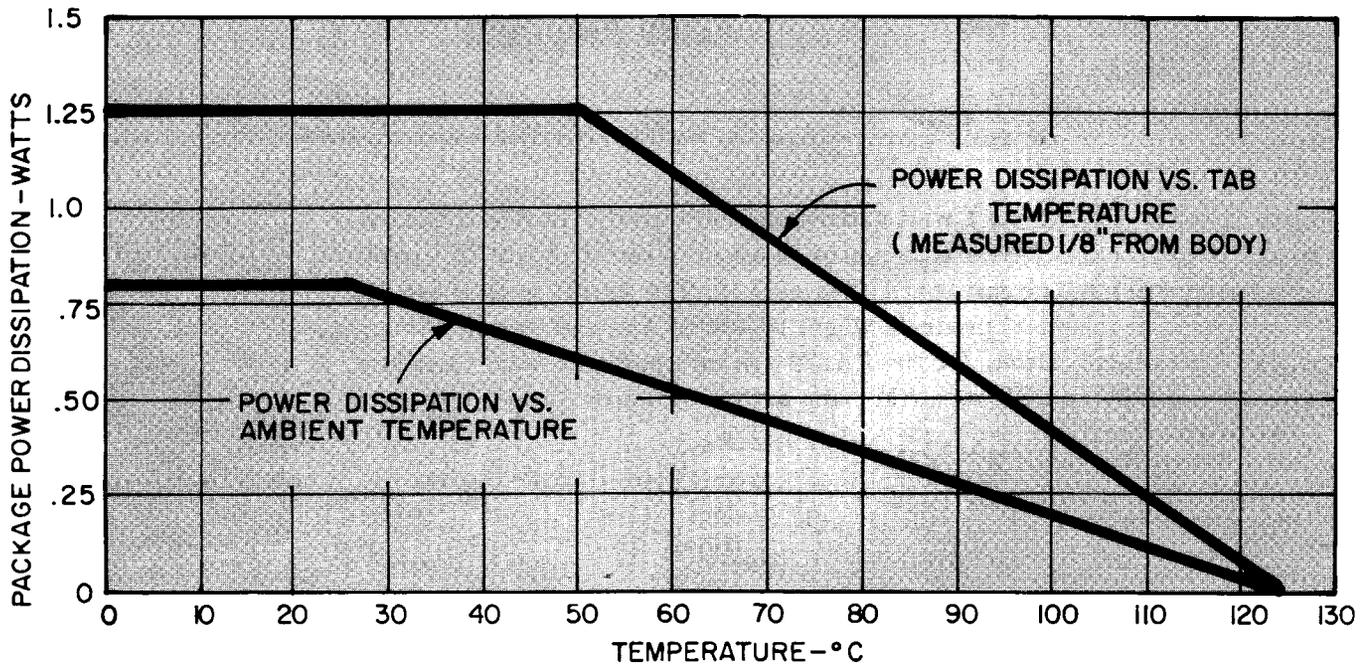

Figure 2. Maximum Power Derating Curve (Continuous Power)
*See derating curve, Figure 2.